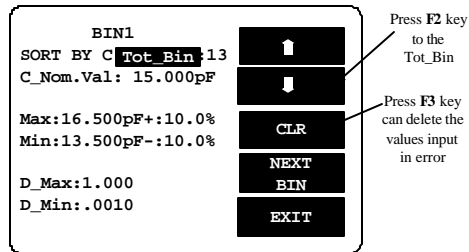

Figure 8-15
- Press \downarrow key. Please refer to Figure 8-15 below.